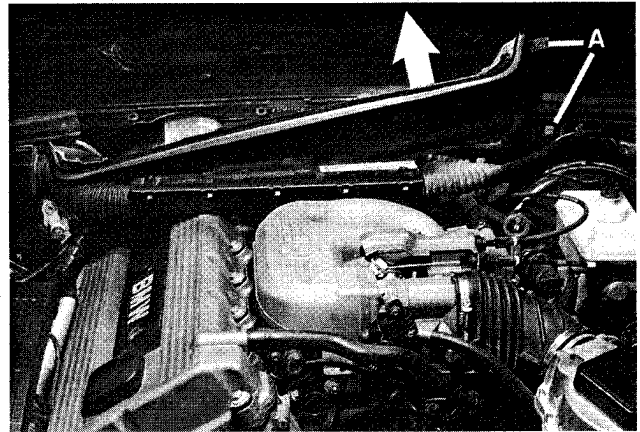

Fig. 4. Remove screw at A and pull air plenum upward.
5. On driver side, push aside wiring harness and remove screw retaining plenum. Pull plenum up and remove from engine bay. See Fig. 4.